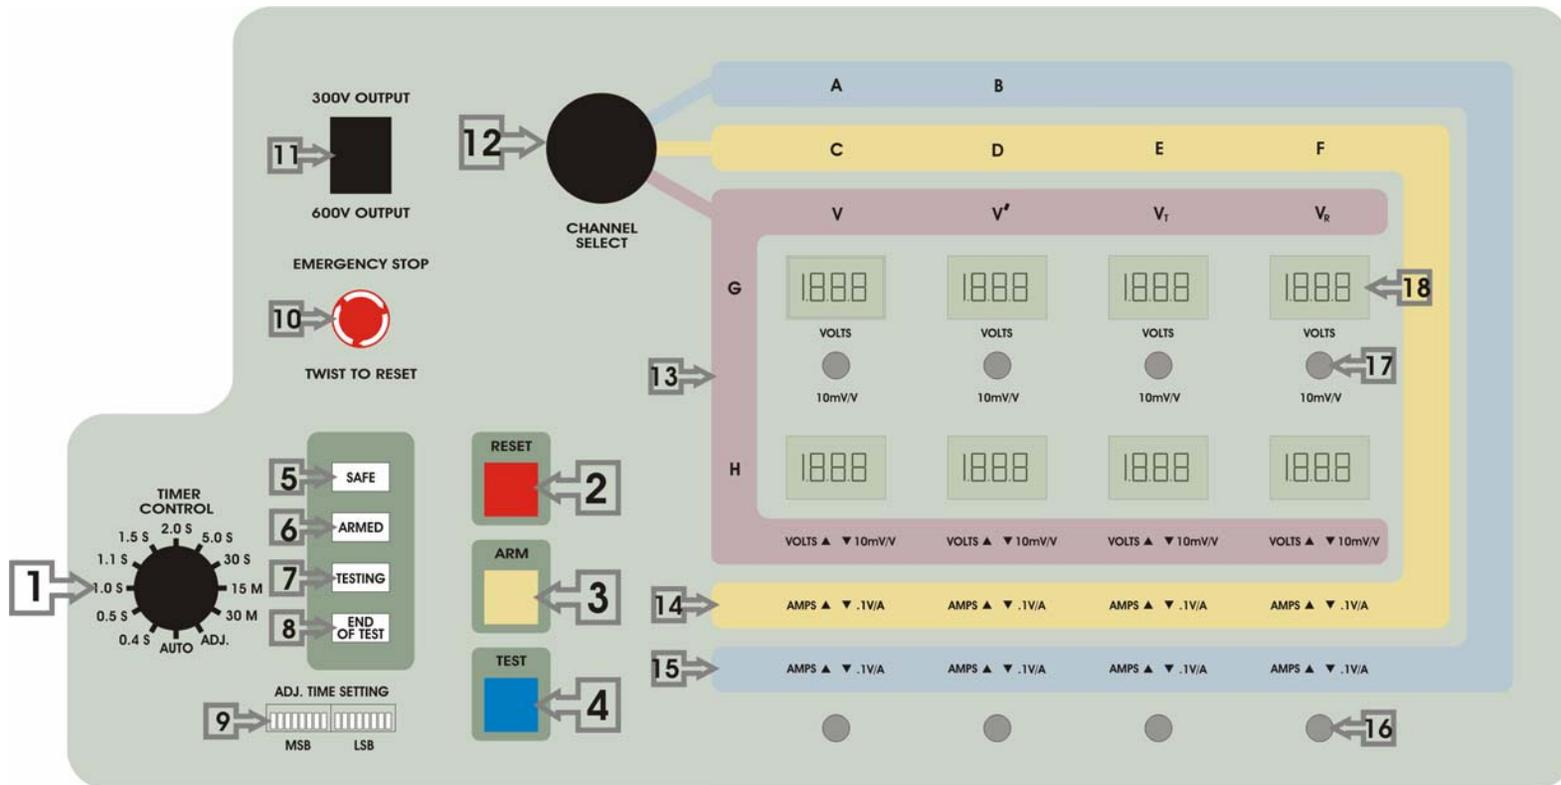
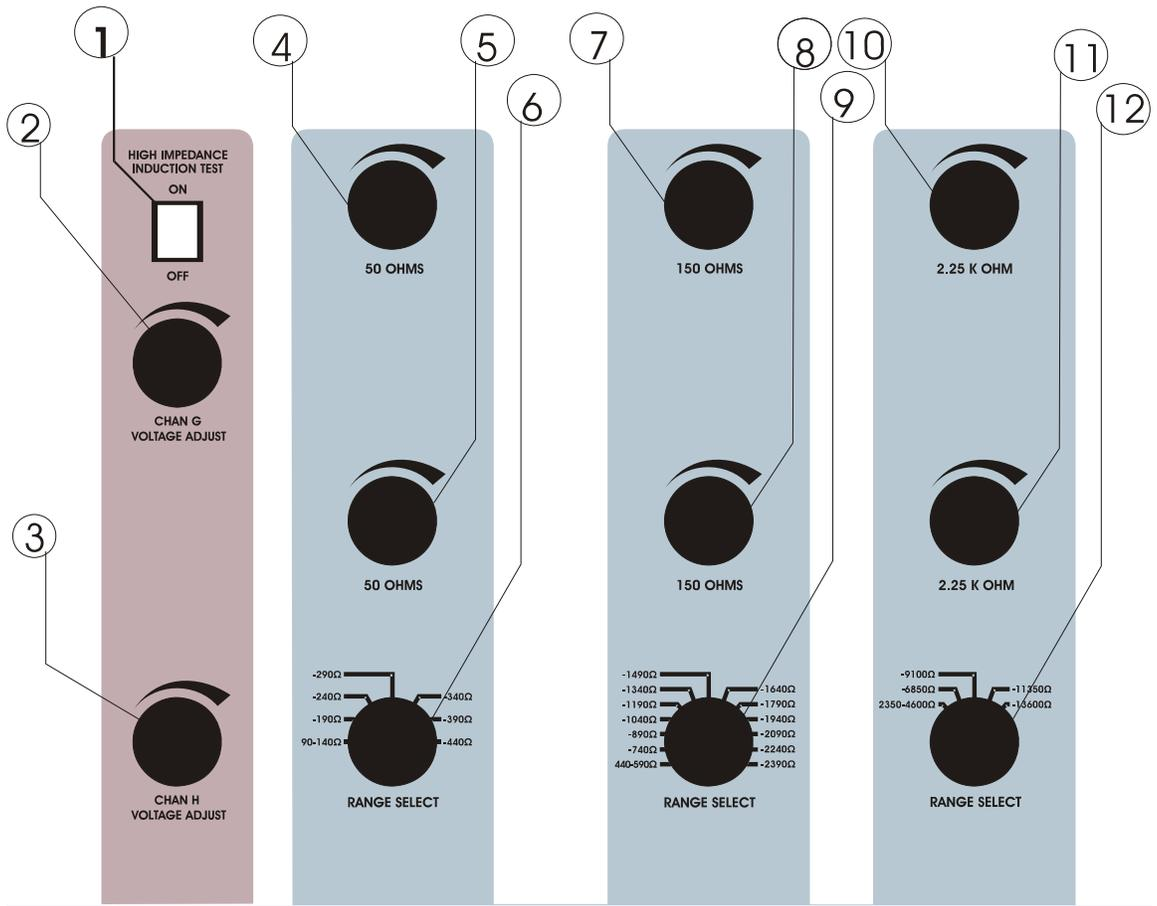

Figure 1. Controls, Indicators – PT-600 Timer Control and Metering Panel
Figure 2. PT-600 Channel Voltage Adjustment Knobs
In case of trouble, the High Impedance Induction Test can also be terminated by turning the switch at the top of the Violet Band to the OFF position. Please see Figure 2, Item 1 for location.
To conduct High Impedance Induction Tests, the switch at the top of the Violet Band must be turned to the ON position. The Voltage Adjust knob at the bottom of the PT-600 should be set to zero when conducting the High Impedance Induction Test, so all other outputs are at zero potential. For switch and knob locations, see Figure 2, Item 1.
The interlocked plexiglass door covers the outputs of the PT-600 during operation. Opening the door defeats the outputs, but use of the RESET button or the Emergency Stop switch is recommended instead, for safety reasons. To halt High Impedance Induction Testing, the switch at the top of the Violet Band can be turned to the OFF position. To ensure operator safety, set the High Impedance Induction Test Switch to the OFF position when this test is not being conducted. Conversely, the Voltage Adjust knob at the bottom of the PT-600 should be set to zero when conducting the High Impedance Induction Test, so all other outputs are at zero potential. For switch and knob locations, see Figure 2, Item 1.
EMERGENCY STOP buttons. To conduct this test, turn the switch at the top of the Violet Band ON. For safety, this switch should be turned off when these tests are completed. Conversely, the Voltage Adjust knob at the bottom of the PT-600 should be set to zero when conducting the High Impedance Induction Test, so all other outputs are at zero potential. For switch and knob locations, see Figure 2, Item 1.
The rear door and the clear plexiglass door over the front lower middle panel are interlocked. If either of these doors are opened, the 600V and 1000V outputs are disabled. **The outputs of the High Impedance Induction Test are unaffected by the interlocks. To disable the High Impedance Induction Test, the switch at the top of the Violet Band must be in the OFF position. This switch is illustrated in Figure 2, Item 1.**
Before using your Tester, take a few minutes to become familiar with the use of its controls, indicators and connectors. The front control panel features of the PT-600 Timer Control Panel (Green Section) are shown in Figure 1 and described in Table 2. The Channel Voltage Adjust Knobs for the Line Cross and High Impedance Induction Test are shown in Figure 2 and described in Table 3. Output Terminals and Measuring Terminals are shown in Figure 3 and described in Table 4. Finally, the Main Voltage Adjust knob (Brown Section) is shown and described in Figure 4. Tests that can be conducted with this version of the PT-600 are described in Section 4, while actual test instructions are discussed later in this Section.
4. Prepare the metering section of the PT-600 and connect voltage and current test leads as described in Figure 1 and Table 2. In this example, all connections are made to Channel A:
5. Set the Timer Control switch (Fig. 1 Item 1) to the 30 sec position. Any convenient time may be chosen to allow time to set up the Output Voltage. If a non-continuous output is used to conduct this test, do not set the Timer Control switch to a longer duration than the output is rated for, or damage to the PT-600 may result.